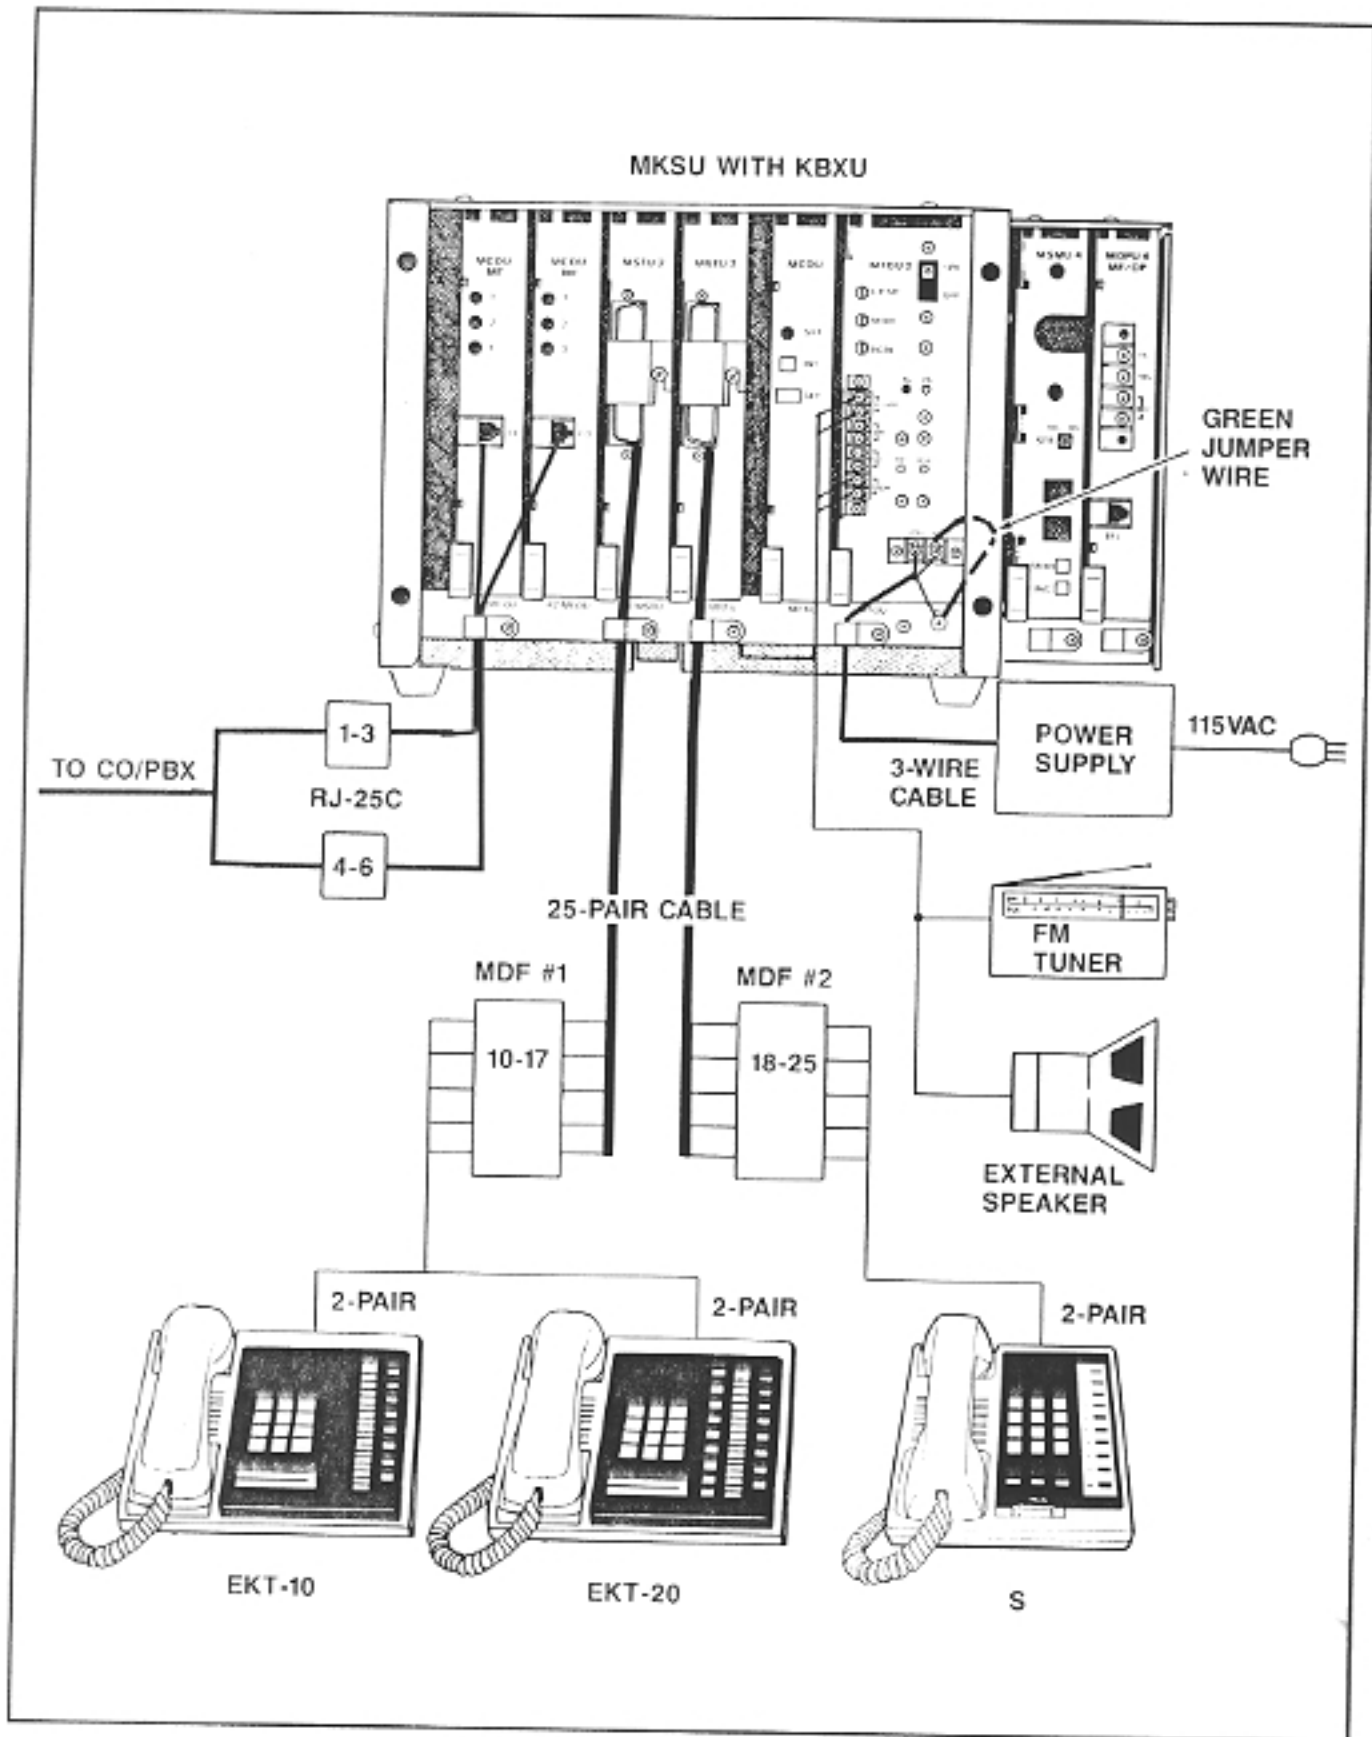

FIGURE 10—SYSTEM DIAGRAM
05.01 The system (Figure 10) consists of an MKSU, power supply and up to 16 electronic key telephones (EKTs). All connections between the MKSU and the EKTs are made via a customer-provided main distribution frame (MDF). Using modular line cords, the CO lines are then connected between the MCOU (and/or MPLU) PCBs and the locally-provided RJ-25C jacks. An external tuner (or equivalent) is required if the music-on-hold/background music feature is utilized.